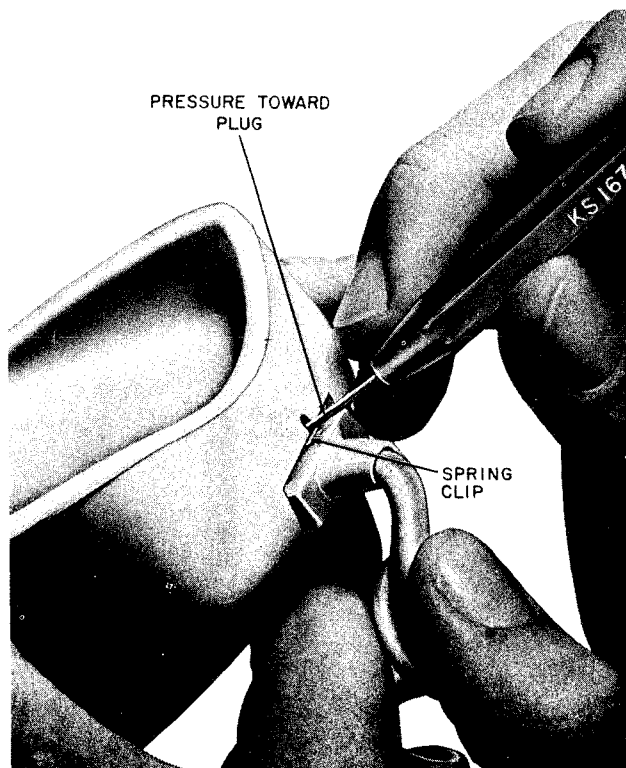

Fig. 13—Removing Handset Cord From AD1 Telephone Base
- (1) Insert hand telephone set cord plug (square grommet end) into jack of AC1 or AD1 base, **make sure that the spring snaps into place to secure the plug.**
- (2) When removing the hand telephone set cord from an AC1 or AD1 telephone base, use a KS-16750 type releaser or equivalent to release the spring clip (Fig. 13). Place the tool in the space provided and apply pressure against the spring clip toward the body of the plug, pull the plug out of the jack.